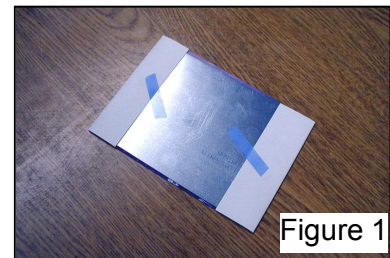

Figure 1
4. Wrap the transfer around each end of the aluminum. Secure with heat tape. (Fig. 1)